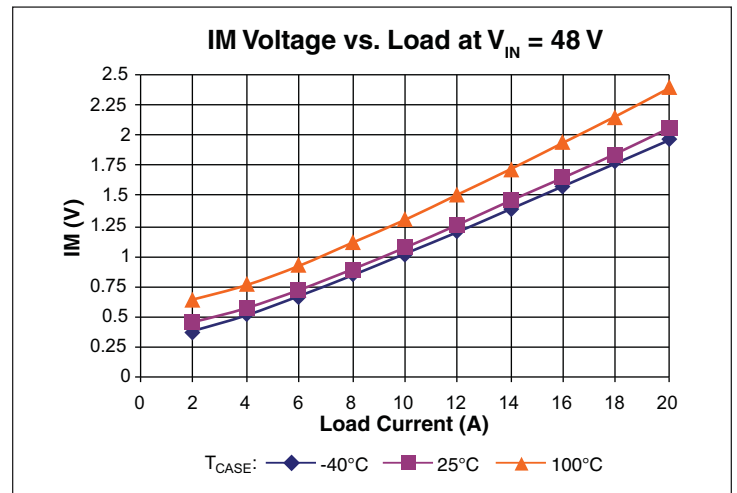

Figure 8 — IM voltage vs. load
**Current Monitor (IM)** pin provides a voltage proportional to the output current of the VTM module. The nominal voltage will vary between 0.41 V and 1.98 V over the output current range of the module (See Figures 8–10). The accuracy of the IM pin will be within 25% under all line and temperature conditions between 50% and 100% load.